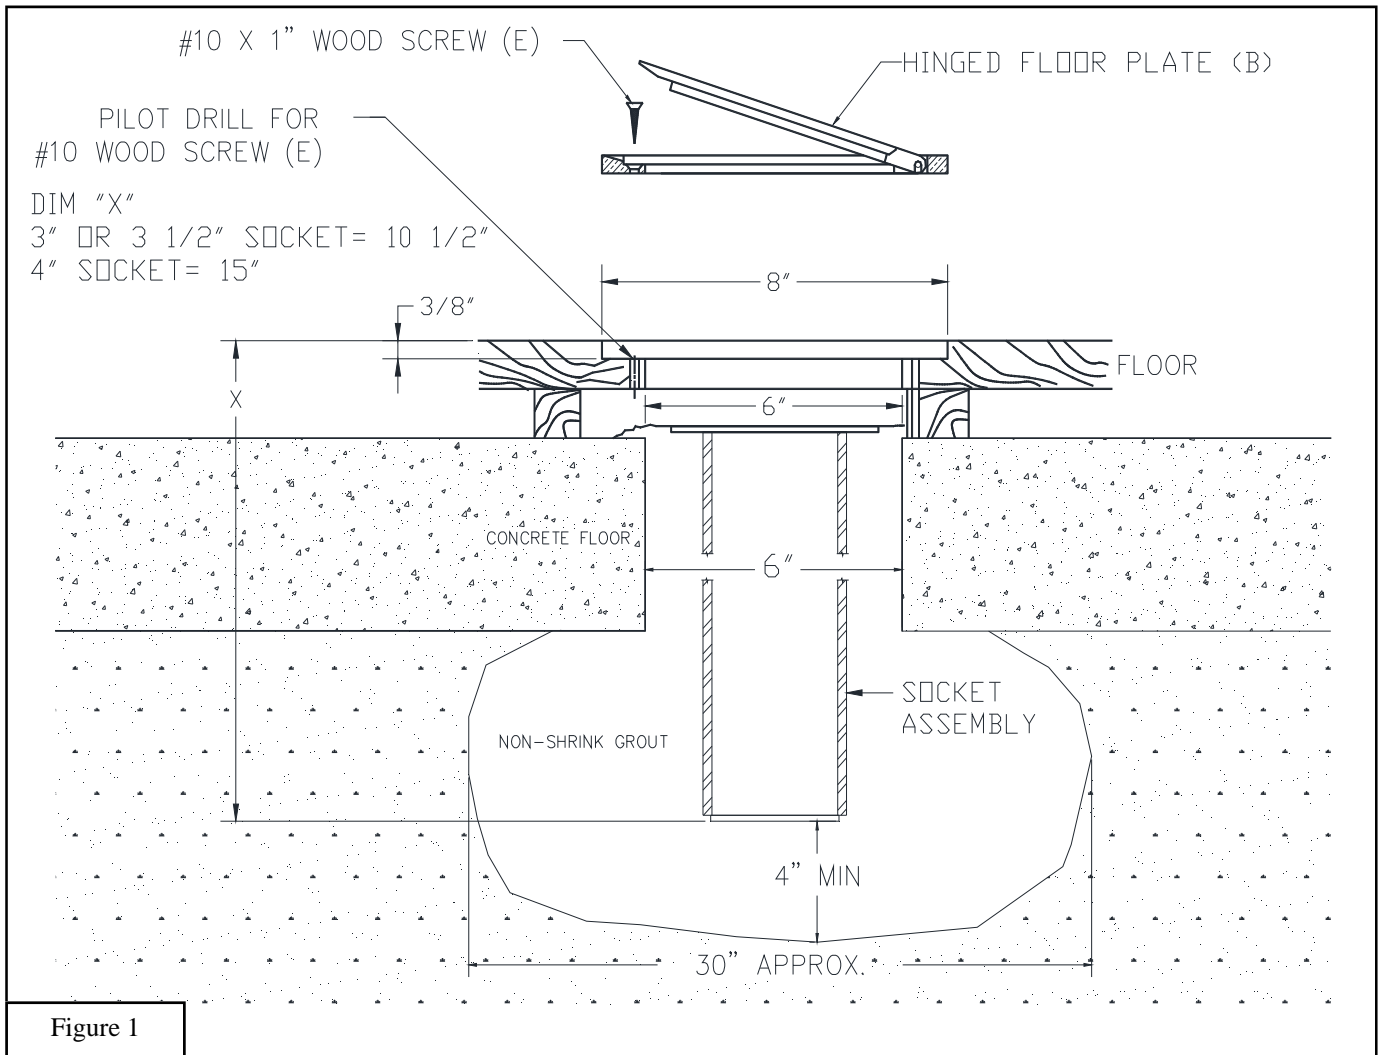

Figure 1
4. Check to insure that the “thru hole” is directly over the center of the existing excavation in the concrete subfloor. If necessary, it is possible to adjust the location as much as 1/2” in any direction without negatively effecting the *Hinged Floor Plate* (B) installation.
5. Using the optional VB23IK “step bore” routing template duct taped to the wood floor, centered on the “thru hole” or excavation in the concrete subfloor, route a 8” diameter X 3/8” deep step bore. The diameter and depth of the “step bore” is critical to insure flush and gap-free installation of the *Hinged Floor Plate* (B). An experienced installer can use any method desired that results in an accurate “step bore”. See Photos 3 and 4.
6. Insert the *Hinged Floor Plate* (B) into the routed floor pocket to insure proper fit. Rotate the *Hinged Floor Plate* (B) so that the hinged lid when raised is located outside the volleyball court and 180 degrees from the ultimate position of the net. Pre-drill an 1/8” pilot hole through the center of the 4 holes countersunk in the *Hinged Floor Plate* (B) to allow easy flush installation of the #10 X 1” Wood Screws (E) provided. The #10 X 1” Wood Screw (E) head must be flush or below the *Hinged Floor Plate* (B) Surface for the cover to close properly. See Photo 5.
7. If excess gaps exist between the *Hinged Floor Plate* (B) and the “step bore” in the floor fill with an appropriate wood putty as needed when installation is complete.
8. Excavate the soil, sand and gravel below the concrete to an approximate diameter of 30”. The depth of the hole should be approximately 20” from the top surface of the wood floor. See Figure 1.